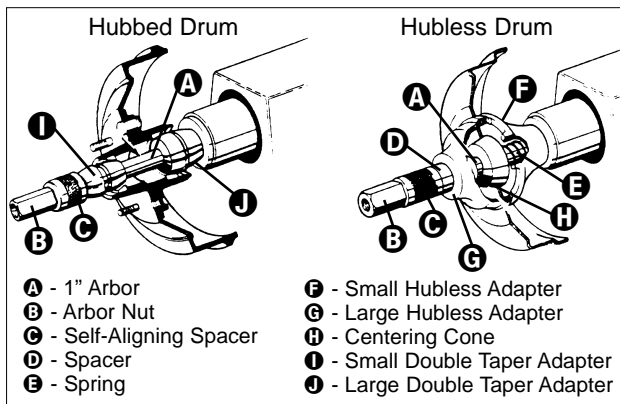

Figure 4 - Typical Drum Mounting Configurations
1. Determine the correct mounting configuration from the samples shown in Figure 4.
2. Mount the drum on the arbor using the proper adapters, cones, and spacers. Refer to Figure 4 for mounting instructions and typical mounting configurations.